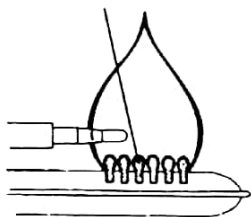

Figure 4
1. Unscrew plug (23) and holder (22). Pull thermocouple straight out.
2. Remove holder (24) by pulling it sideways from burner housing.
4. Reassemble in reverse order. Install the thermocouple so that the feeler reaches in over two slots of the burner (Figure 4).